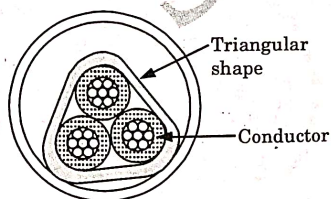

Fig. 5.14.6. Gas pressure cable.
3. The Fig. 5.14.6 shows the section of a gas pressure cable. The cable is triangular in shape and installed in the steel pipe.